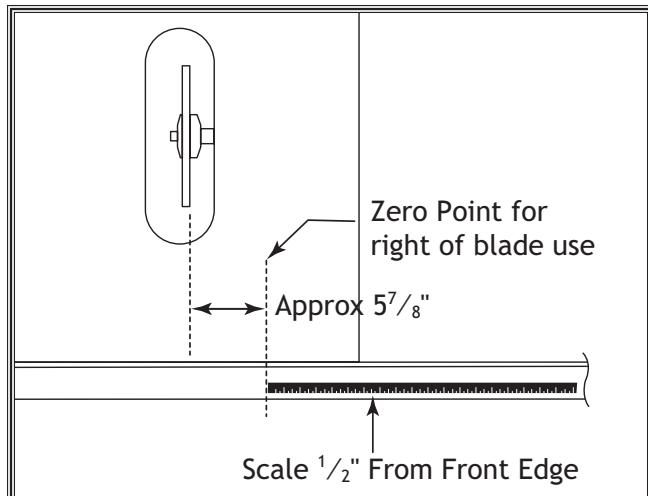

Figure 13. Scale location for right-side blade use.
5. Using the zero mark as the starting point and the masking tape as a guide, apply the adhesive scale to the rail. See **Figure 13**. Push the scale into place with heavy thumb pressure.